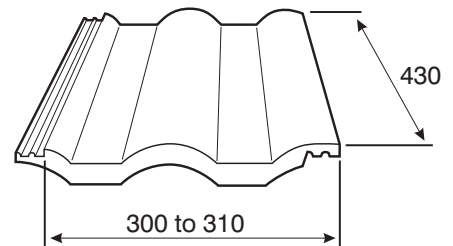

Figure 1.
1. Check fan for possibility of transit damage and that the fan matches the tile type used on the roof. The Tile Fan suits most Boral and Monier concrete tiles with dimensions as shown. (See Figure 1.)